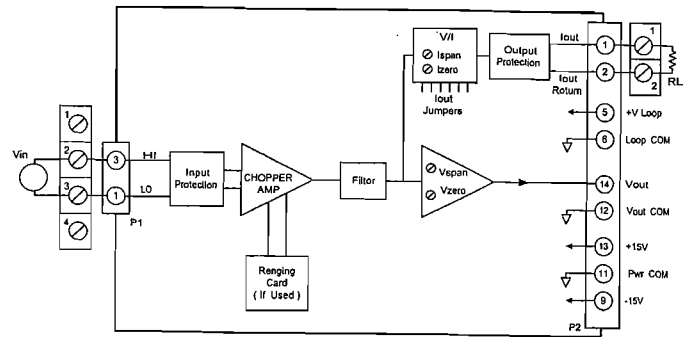

Figure 2.1.1.1. 3B10 and 3B11 Functional Block Diagram
1. Connect model 3B10(3B11) as shown in Figure 2.1.1.1 with  $R_L = 250\Omega$ .